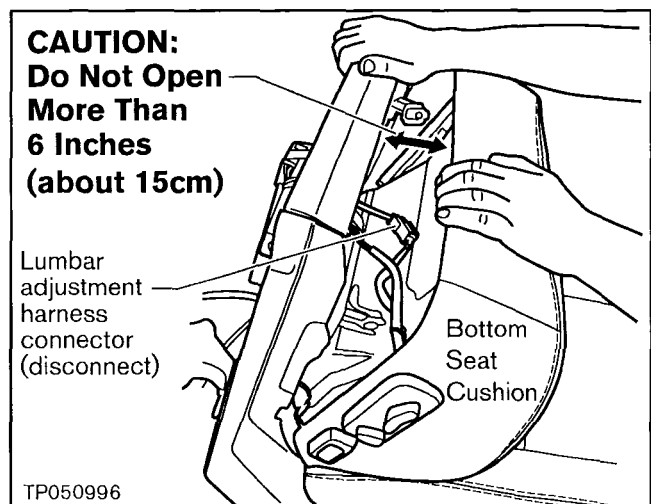

Figure 9
- a. Separate the bottom seat cushion from the seat frame to reach the connector (see Figure 9).
- b. Disconnect the harness connector (see Figure 9).